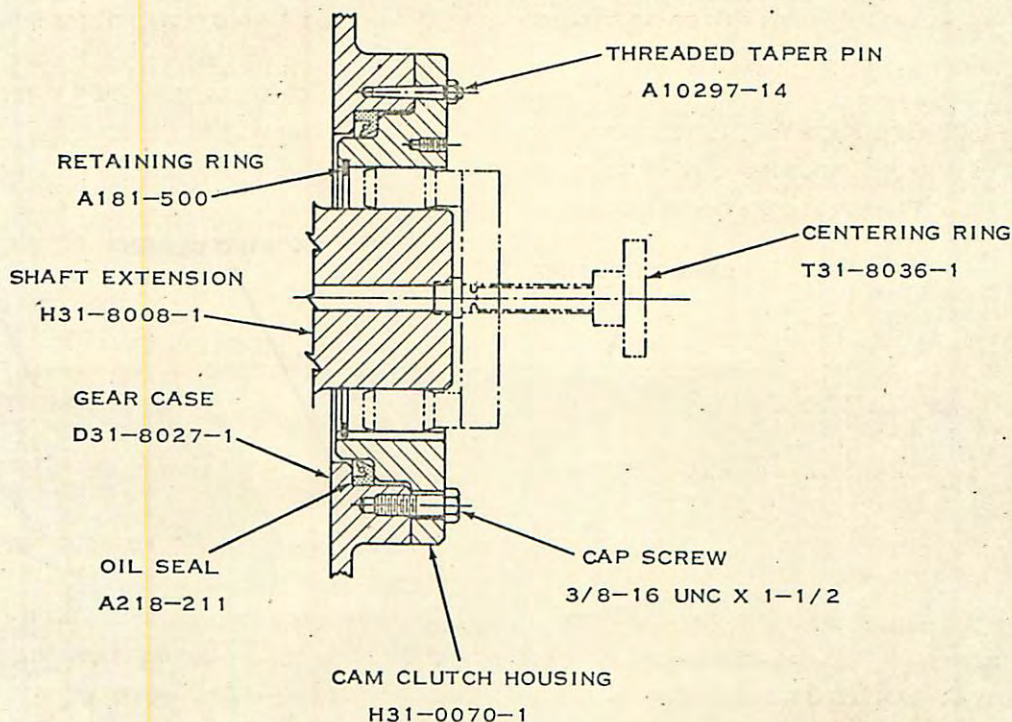

FIGURE 22. CENTERING CAM CLUTCH HOUSING
6. PLACE CAM CLUTCH HOUSING ON GEAR CASE USING CENTERING RING (SEE FIGURE 22) TO LOCATE HOUSING. GEAR CASE CAN BE REDOWELED IF NECESSARY TO ASSURE CENTERING OF HOUSING WITH EXTENSION.